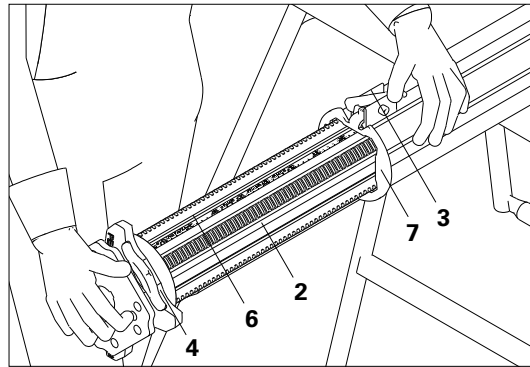

Fig. A1.02a
1. Press down safety hook (3).
- Inner tube (2) together with the adjusting collar (4) is released. (Fig. A1.02a)
2. Pull out inner tube until the length indicated on the measuring tape (6) is slightly more than the required prop length.